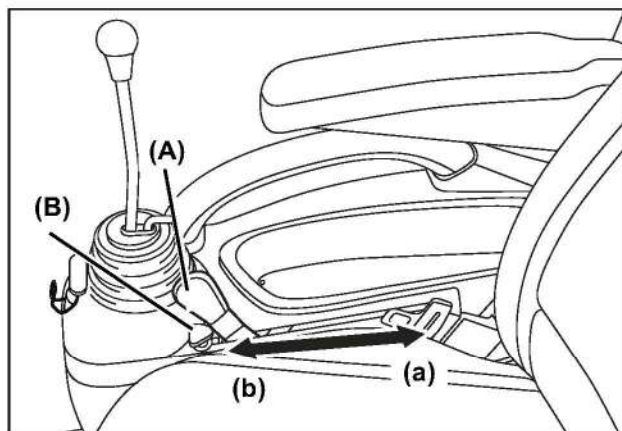

Fig 10-3
1. Use the 3-point hitch control lever (Fig 10-3, A) to raise and lower the implement attached to the 3-point hitch.
2. Adjust the position stop knob (Fig 10-3, B) to set the desired lowest position of the implement from the ground.